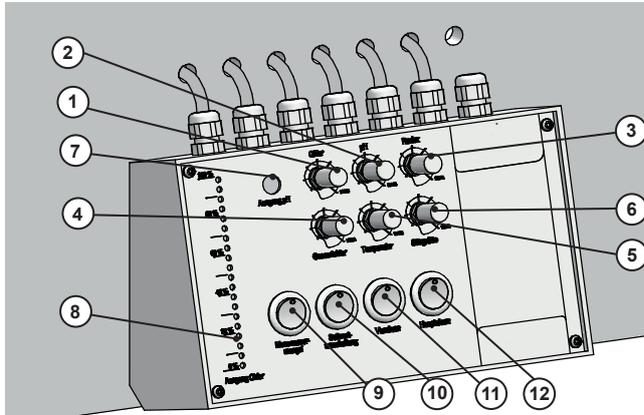

Fig. 2: TOPAX® MC and hardware simulator on mounting plate
The displays (see “Fig. 2: TOPAX® MC and hardware simulator on mounting plate” on page 9, items 7 and 8) are used for independent visualization of the controller output value for pulse-pause operation of a pH value control (item 7) and the continuous value of the chlorine value setting (item 8).